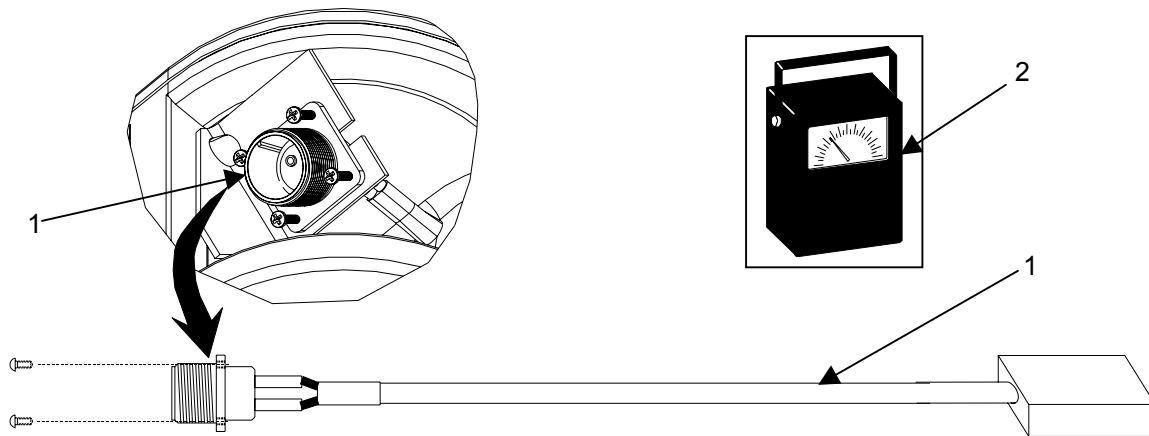

Figure 2. Test the Electrical Connector Assembly
1. Tag and disconnect the connector assembly (**figure 2, item 1**) from the harness.
2. Using a multimeter (**figure 2, item 2**), test the leads for continuity. If the wires are open, replace the electrical connector assembly.
3. Reconnect the connector assembly (**figure 2, item 1**) to the harness as tagged.